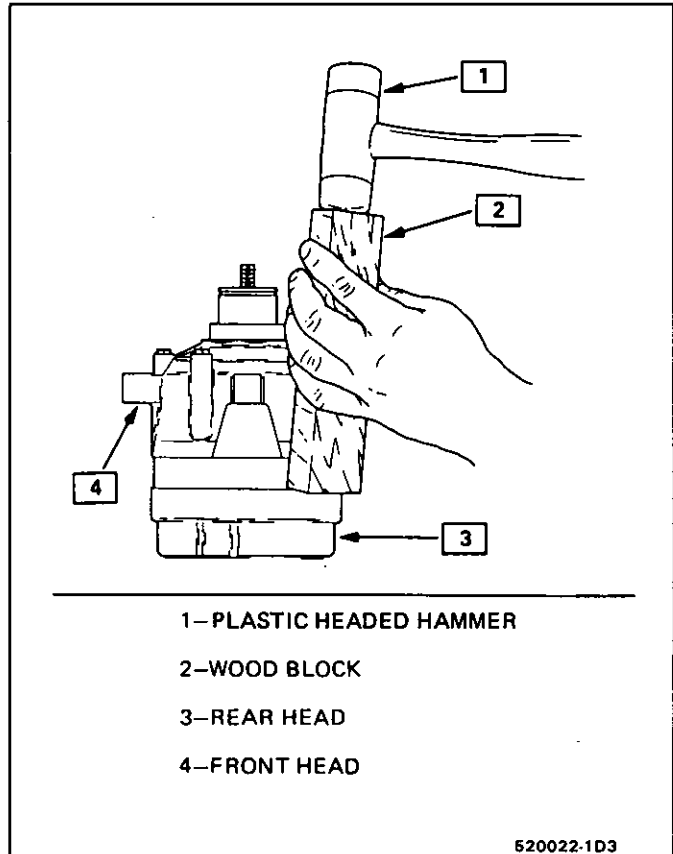

Fig. 28 Tapping Front or Rear Head Free of Cylinder
3. Remove the six (6) compressor through bolts and gaskets. Discard the gaskets.
4. Using a wood block and plastic headed hammer, tap around the edge of the rear head to disengage head from the compressor cylinder (Fig. 28).